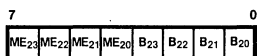

Figure 36. Local Address Register
**Local Address Register.** Before an external memory bus transaction is to proceed, the Z280 distinguishes whether a bus transaction uses the local or global bus by comparing the four most significant bit of the physical address (address bits 20 through 23) with a 4-bit Base field in the Local Address register (Figure 36). A mask field in this register specifies which bits are to be compared. If all corresponding address bits match the Base field bits (for those bit positions specified by the mask field), then bus transaction can proceed on the local bus without requesting the global bus; if there is a mismatch in at least one specifies bit position, then the global bus is requested and the bus transaction does not proceed until the global bus acknowledge signal is asserted.